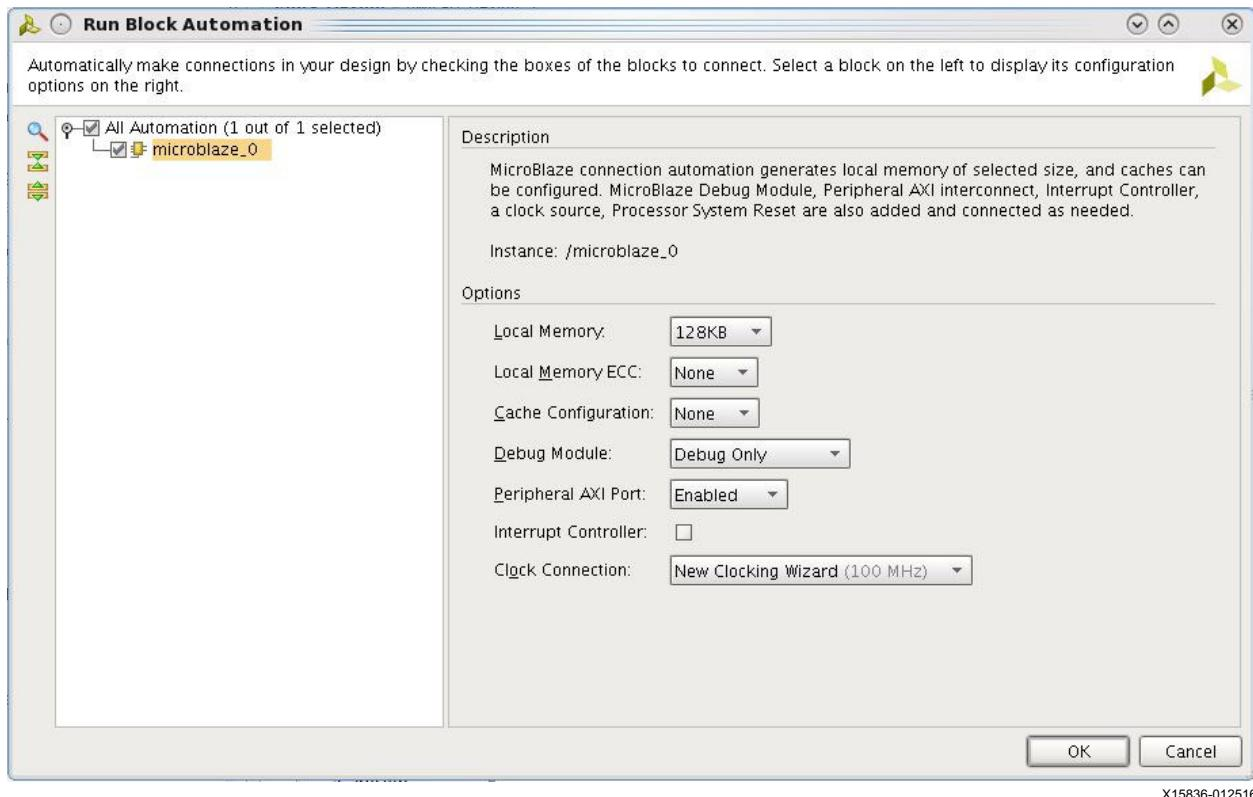

Figure 8: Block Automation Page
11. Where it says that *Designer Assistance available*, Click to get the *Run Block Automation* page (Figure 8). Change *Local Memory* to 128 KB and *Cache Configuration* to *None*. Leave all other values at their defaults. Click *OK*. This step automatically adds a clocking wizard IP and the block RAM resources for the processor.